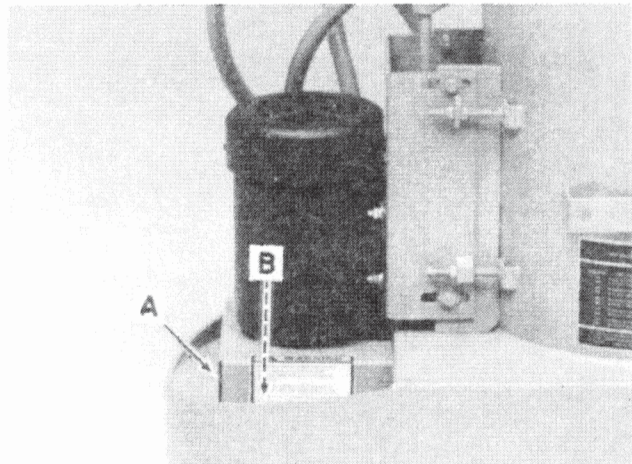

Figure 5-2
8. Reinstall shield, A, using two nuts, B, previously removed, Figure 5-2.